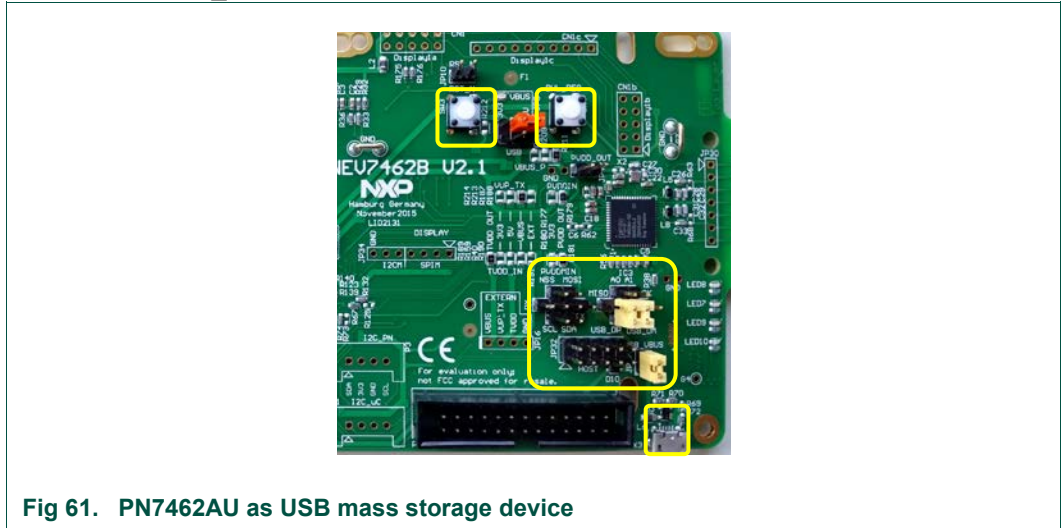

Fig 61. PN7462AU as USB mass storage device
- Ensure that “HIF selection” is USB, see Fig 61